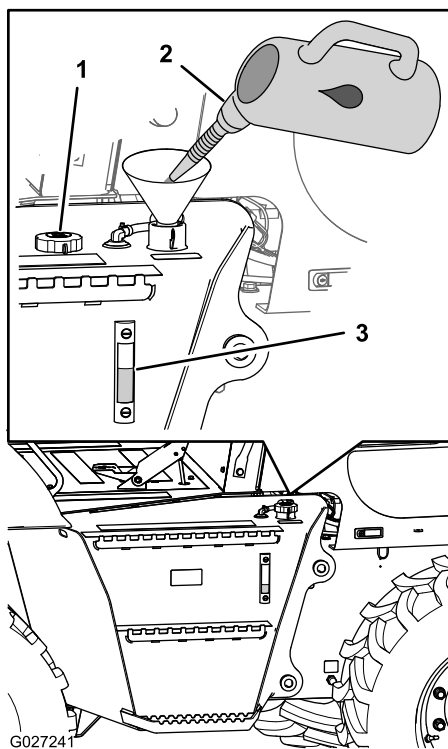

Figure 45
1. Check the hydraulic-fluid level in the sight glass located at the side of the hydraulic reservoir (Figure 45).
2. If the hydraulic-fluid level is not visible in the sight glass, remove the fill cap (Figure 45), add the specified hydraulic fluid until the fluid level is at the midpoint of the sight glass, and install the fill cap.